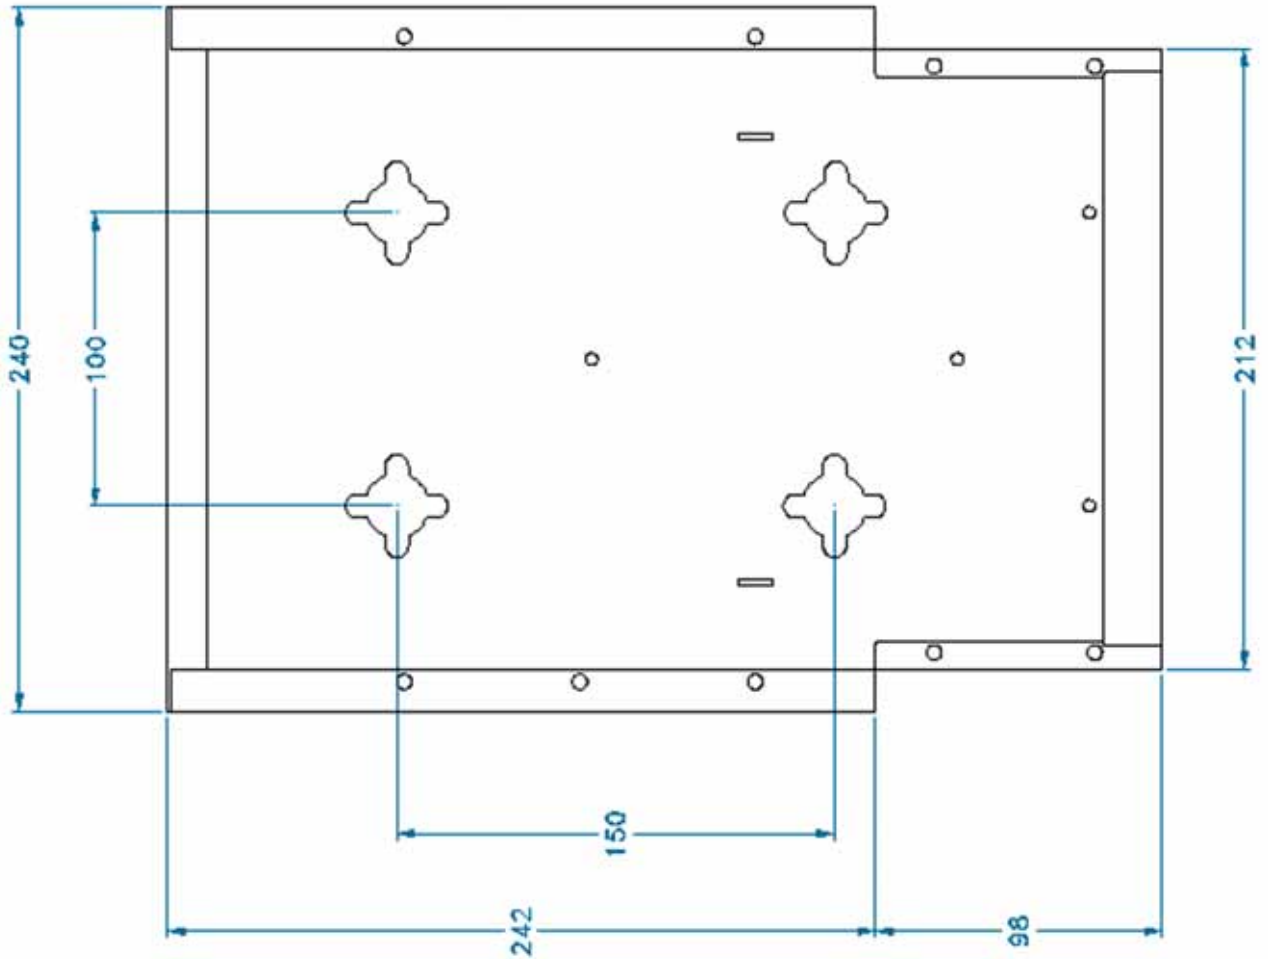

Figure 3.2.11: Layout of the TKA installation kit for TFax Remote Unit, Case A.
2. In order to install the M4 screw anchors (included) which hold up the TKA04 wall bearing, drill into the wall according to the TKA layout shown in Fig. 3.2.11.